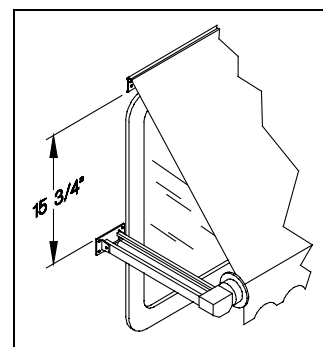

Figure 3
- B. Place the top of the bottom bracket 15-3/4" below the bottom of the awning rail. (Figure 3.)